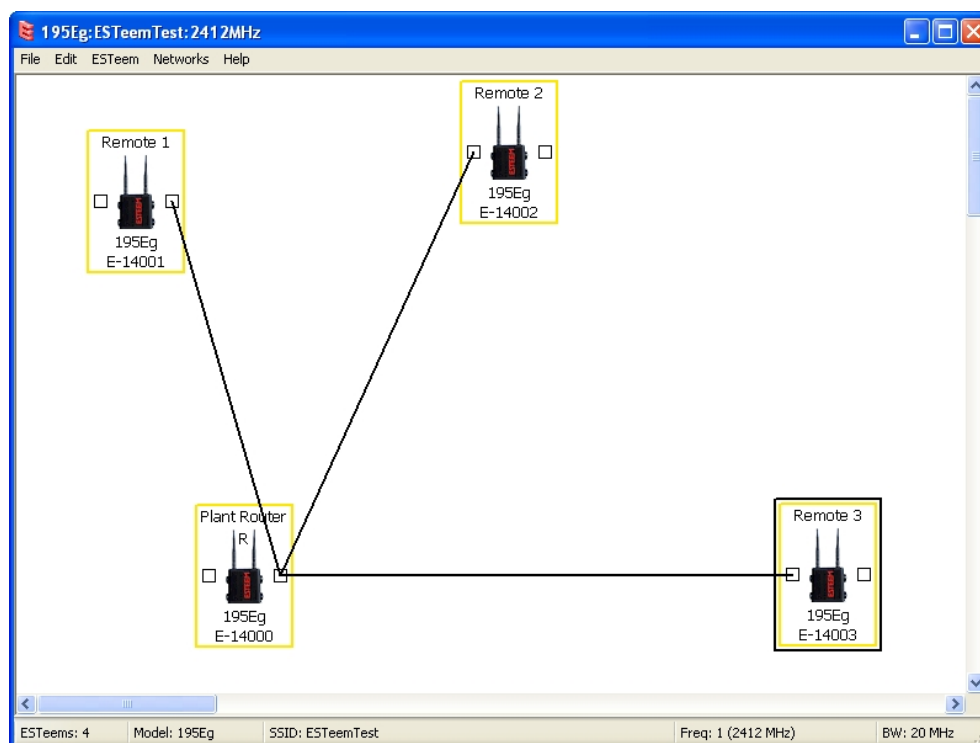

Figure 19: Router Example Layout
2. Move the ESTeem 195Ea icons on the screen to simulate the layout of the diagram. Draw connection lines between the wireless links modems in the same order as the network layout (Figure 19).